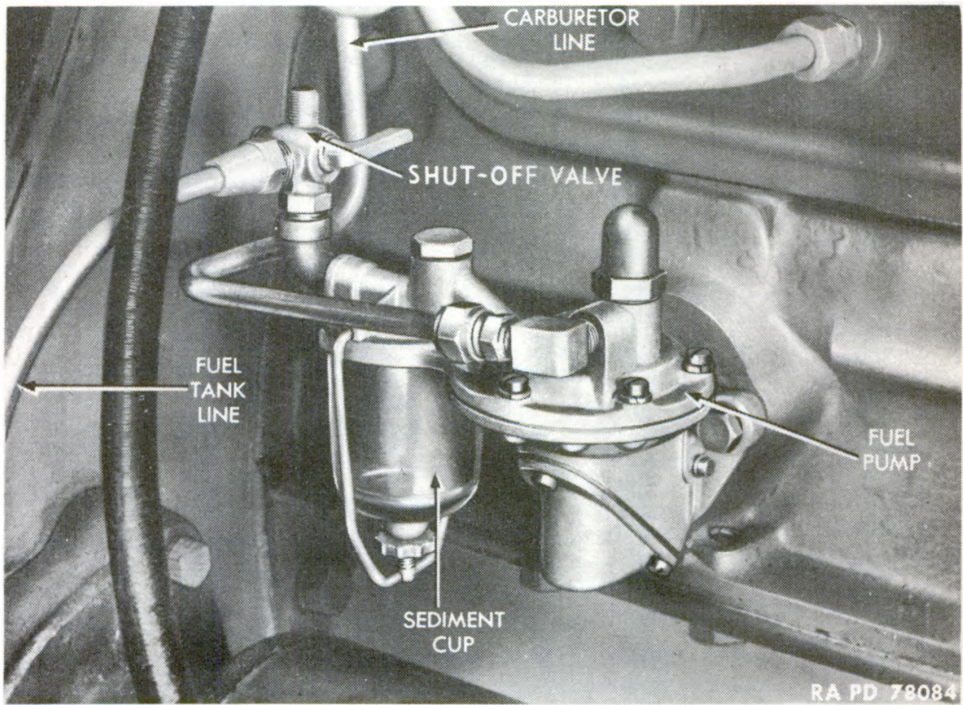

Figure 34 — Fuel Pump — Installed
a. Description. The fuel pump (fig. 34) is a mechanical, diaphragm-type, which is attached to the crankcase and operated by an eccentric on the engine camshaft. The vacuum created by the pump draws the fuel from the tank to the pump. The diaphragm then forces the fuel from the pump to the carburetor. Before the fuel reaches the pump proper, it flows through a strainer into a removable glass sediment cup where water and impurities fall to the bottom. The fuel flow passes across the top of this cup.
(1) Disconnect fuel tank line and carburetor line at fuel pump (fig. 34).
(2) Connect fuel tank line and carburetor line to fuel pump (fig. 34).